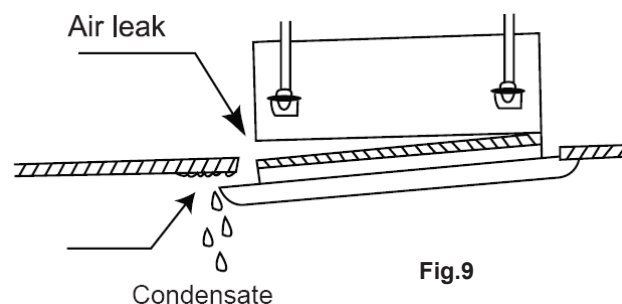

Fig.9
(7) Improper screwing of the screws may cause the troubles shown in Fig9.